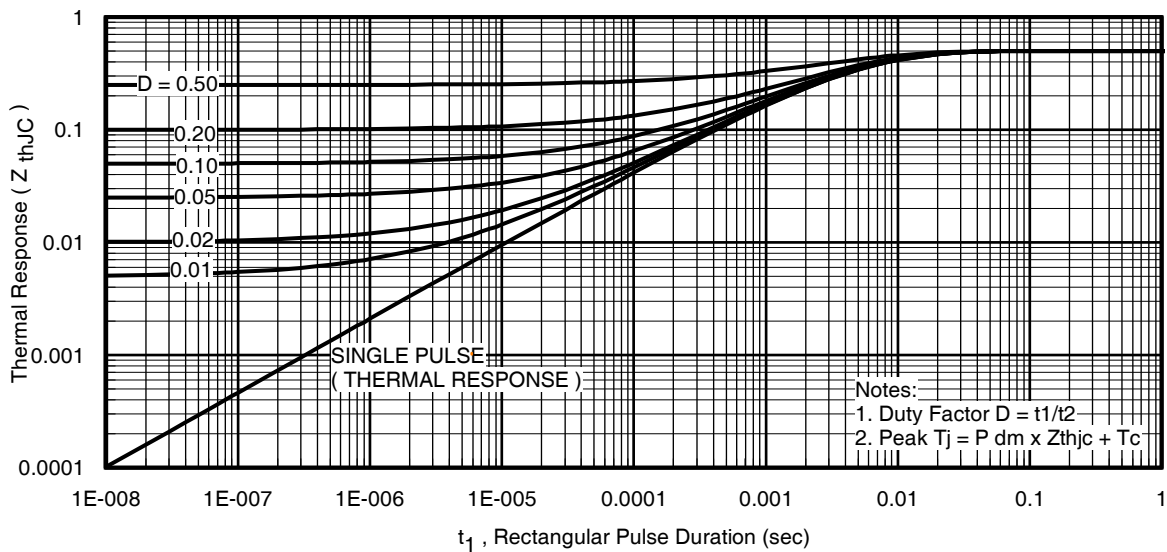

Fig 11. Maximum Effective Transient Thermal Impedance, Junction-to-Case
- ① Repetitive rating; pulse width limited by max. junction temperature. (See fig. 11).
- ② Limited by T_{Jmax}, starting T_J = 25°C, L=0.24mH, R_G = 25Ω, I_{AS} = 75A, V_{GS} = 10V. Part not recommended for use above this value.
- ③ I_{SD} ≤ 75A, di/dt ≤ 220A/μs, V_{DD} ≤ V_{(BR)DSS}, T_J ≤ 175°C.
- ④ Pulse width ≤ 1.0ms; duty cycle ≤ 2%.
- ⑤ C_{oss eff.} is a fixed capacitance that gives the same charging time as C_{oss} while V_{DS} is rising from 0 to 80% V_{DSS}.
$Z_{thJC}(D, t_{av})$ = Transient thermal resistance, see figure 11)